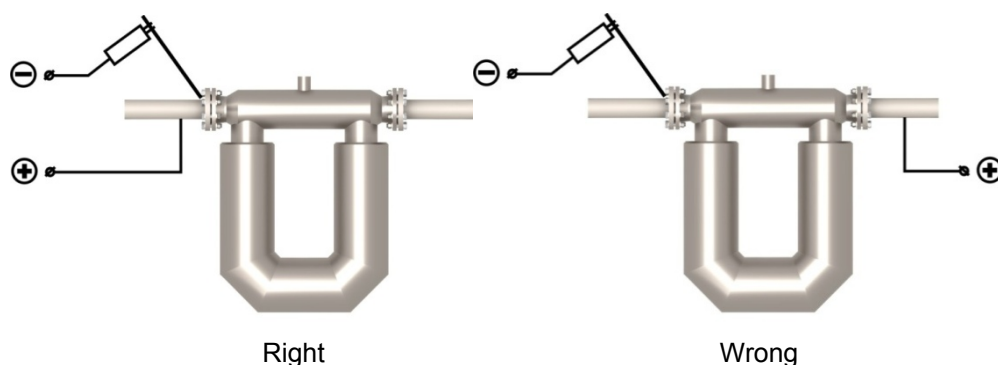

Figure 2.3 Connecting the power source for arc welding using the flowmeter
- when installing using an electric arc welding, the power source is connected in a way that prevents the welding current to run through the flowmeter - see Figure 2.3.